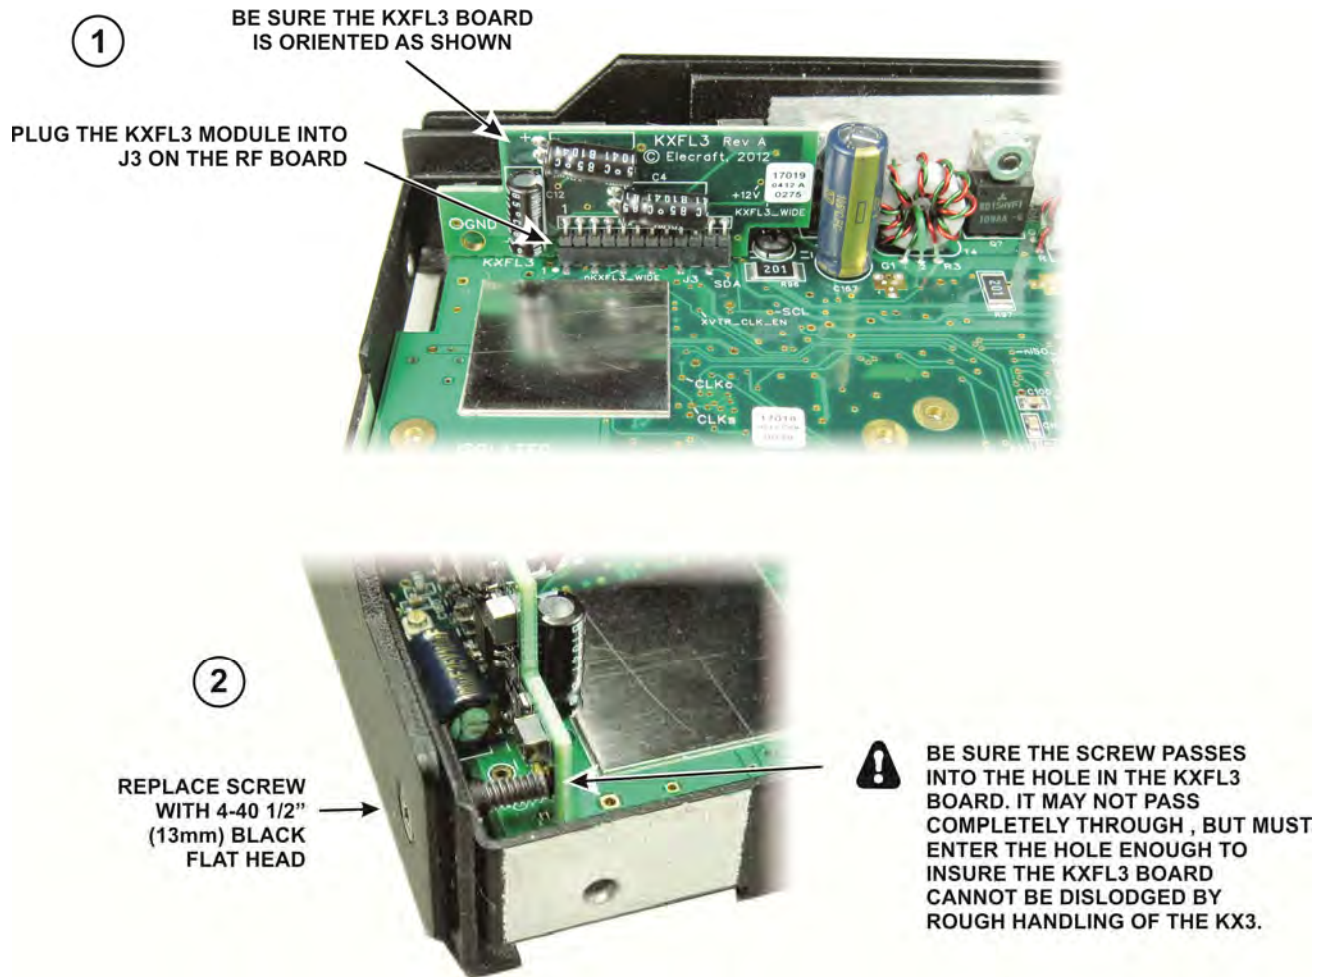

Figure 45. Installing the KXFL3.
□ If you have the KXFL3 filter option, install it as shown in Figure 45. The connector is at the opposite end of the RF board from the antenna connector near the shield you installed on the RF board earlier. Be sure the board is oriented as shown and that all the pins mate with the connector on the RF board. The new, longer screw through the bottom cover and heat sink does not make electrical contact with the hole in the KXFL3 board. It is there to ensure the board cannot be dislodged by rough handling of the KX3.